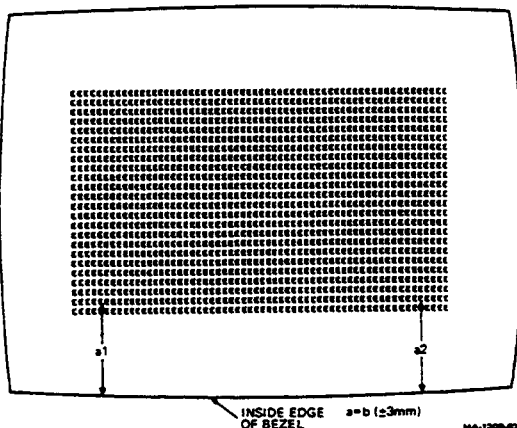

Figure 4-9 Rotation Check
3. Use the scale on the alignment template to make the following measurements (Figure 4-9). Find the point that is five columns of E's from the left and one row of E's from the bottom of the alignment pattern. Measure the distance a_1 from this point to the monitor bezel.